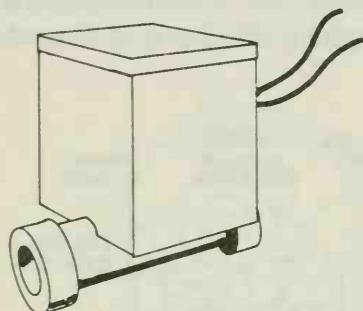

Fig. 4-3. Sketch of main-burner solenoid.
*Main-Burner Gas Solenoids*—These may be actuated by either 120- or 24-volt current, the latter being stepped down by a transformer. The gas solenoid (Fig. 4-3) is wired in series with the control thermostats and the cen-